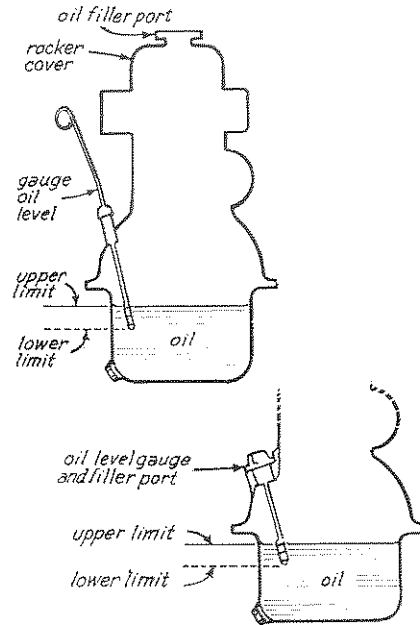

Figure 2. Oil Capacity
1. Fill your engine with oil up to or near the upper limit on the dipstick. Use a good grade of oil with API specification of CC or better. For quantity of oil, you may refer to the General Specifications page 3 (see Figure 2).